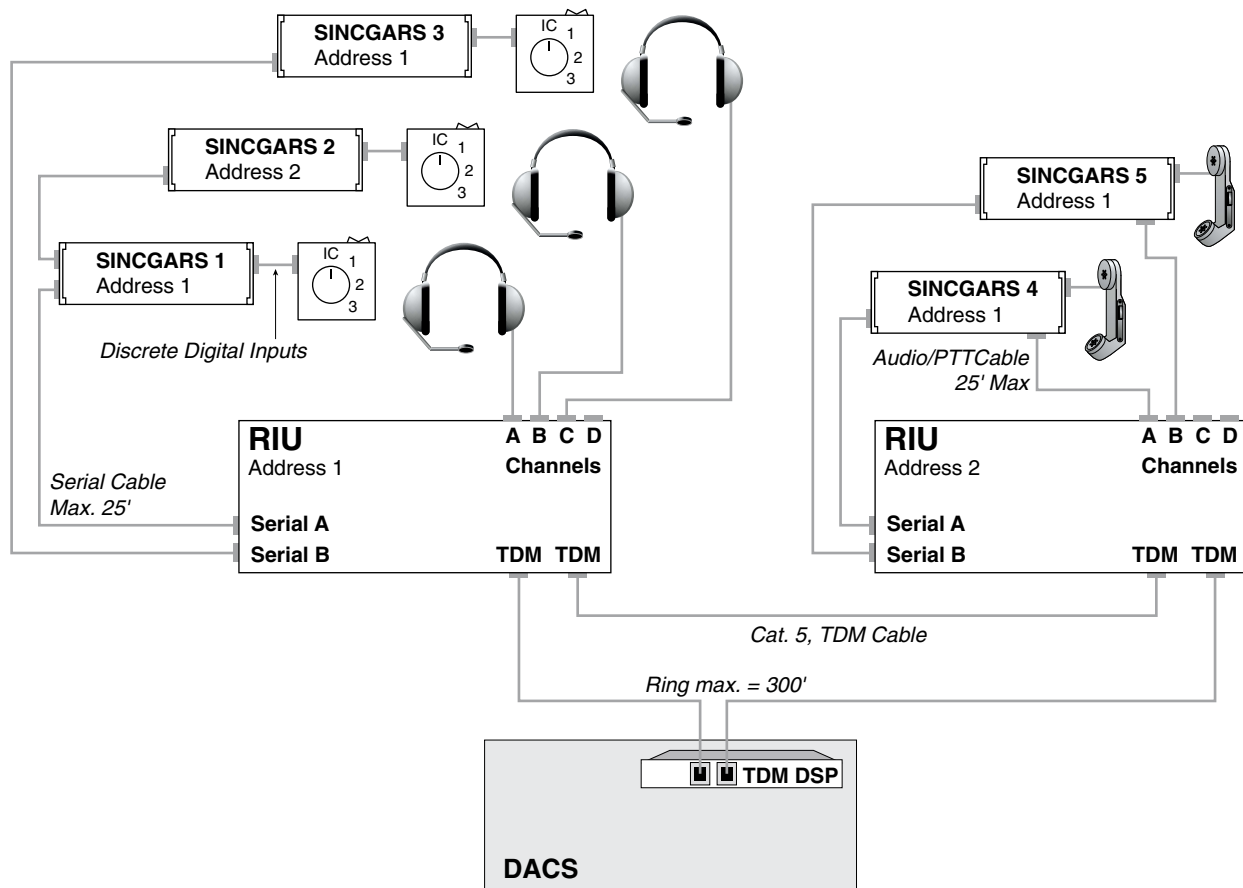

Figure 5: Example Layout
Figure 5 shows an example layout with:
1. Inter-connect the RIUs and the TDM card to the DACS node using standard Category 5 unshielded, twisted pair cables, all four pairs wired straight through. The cables are installed in a daisy-chain fashion, with the first cable originating at the DACS node TDM card connecting to the first RIU. The next cable links the first RIU to the second, and so on, with the last RIU being connected back to the TDM card, completing the TDM ring. Refer to Figure 5.
1. Connecting one panel to an RIU serial port (see the example in Figure 5: RIU 1 / Serial Port B connects to SINCGARS 3):
2. When connecting two panels into a single RIU serial port (see the example in Figure 5: RIU 1 / Serial Port A connects to SINCGARS 1 and SINCGARS 2):
E. Digital Input (DI) Connection
1. The panel includes eight general purpose digital input (DI) circuits. Each DI provides a contact sensing circuit that can be used to connect ancillary controls to the panel. The state of the DIs is sent through the panel - RIU - TDM path to the communications software model, where it can be integrated into the communications model structure to simulate the effect of real-world operator controls.
4. The following example illustrates how to install the Communication Select / PTT boxes from the system map in Figure 5.
** The example control box is connected to SINCGARS #1 (Figure 5), hence the R1 control buffer address. See the Model ICD in Appendix A for details.